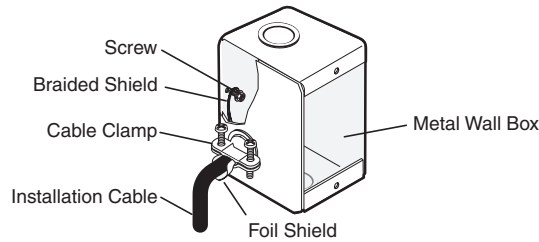

Figure 9. Grounding the Outer Braided and Foil Shields for a Wall Box Installation
5. Exposed cable shields (braids or foil) are potential sources of short circuits. Trim back or insulate shields with heat shrink (see figure 9 on page 11).